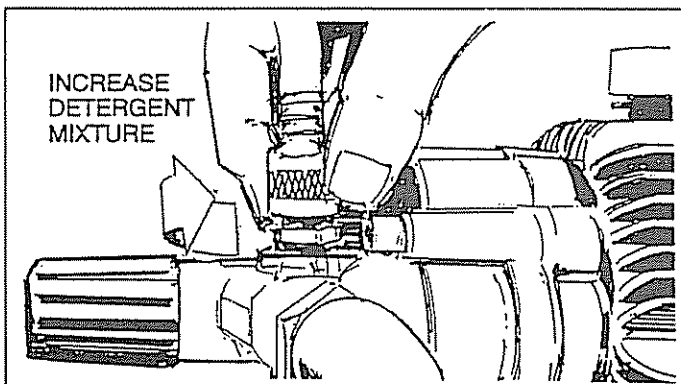

FIG. 16
- Start washer and apply detergent to a dry surface, starting from the bottom and working up. You can adjust the concentration of detergent by turning the knob on the detergent injector (Fig. 16).